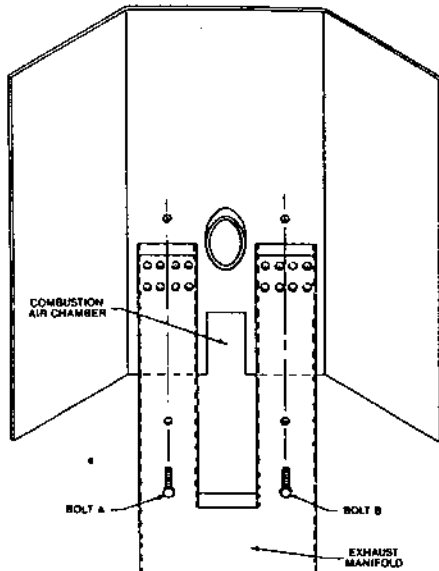

FIGURE 8
- b. Use $\frac{3}{8}$ " wrench. Remove bolts A & B (figure 8). Pull out manifold.